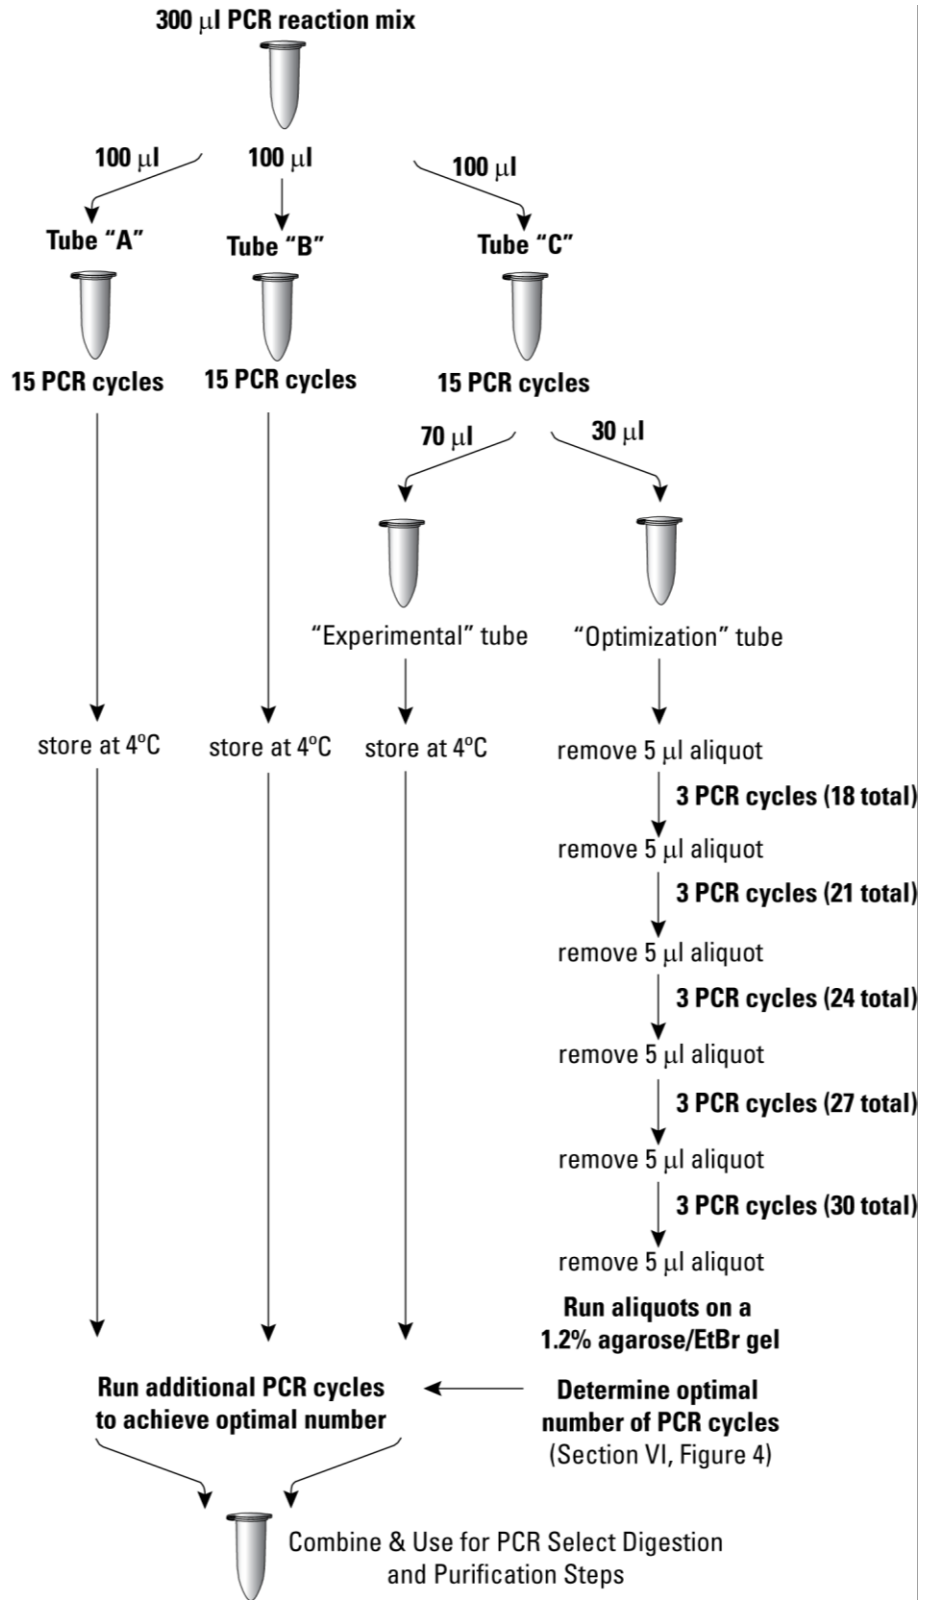

Figure 5. Optimizing PCR parameters for SMARTer Pico cDNA synthesis for use with Clontech PCR-Select.
Guidelines for optimizing your PCR, depending on the amount of total RNA used in the first-strand synthesis, are provided in Table 2 (see Section V). These guidelines were determined using the Control Mouse Liver Total RNA and a hot-lid thermal cycler; optimal parameters may vary with different templates and thermal cyclers. To determine the optimal number of cycles for your sample and conditions, we strongly recommend that you perform a range of cycles: 15, 18, 21, 24, 27, and 30 cycles (Figure 5).
To generate sufficient cDNA for PCR Select subtraction, you should set up three 100 µl PCR reactions, labeled “A”, “B”, and “C”, for each tester and driver sample (Figure 5). In our experience, each PCR reaction will typically yield 1–2 µg of ds cDNA. Subtraction usually requires 2 µg of driver cDNA, so the three combined tubes of SMARTer cDNA should produce sufficient cDNA, taking into account any loss from column chromatography; three tubes will also be ample for the tester. To ensure that you have sufficient cDNA, you should estimate the yield of SMARTer cDNA by UV spectrophotometry.
9. Subject each reaction tube to 15 cycles, then pause the program. Transfer 30  $\mu$ l from Tube C to a second reaction tube labeled "Optimization". Store Tubes A and B, and the "Experimental" tube containing the remaining 70  $\mu$ l of Tube C, at 4°C. Using the Optimization PCR tube, determine the optimal number of PCR cycles (see Figure 5, Appendix A):
For best results, you must optimize the PCR cycling parameters for your experiment, as described in Section B (Figure 5). Choosing the optimal number of PCR cycles ensures that the ds cDNA will remain in the exponential phase of amplification. When the yield of PCR products stops increasing with more cycles, the reaction has reached its plateau. Overcycled cDNA is a very poor template for cDNA subtraction. Undercycling, on the other hand, results in a lower yield of your PCR product. The optimal number of cycles for your experiment is one cycle fewer than is needed to reach the plateau. Be conservative: when in doubt, it is better to use fewer cycles than too many.